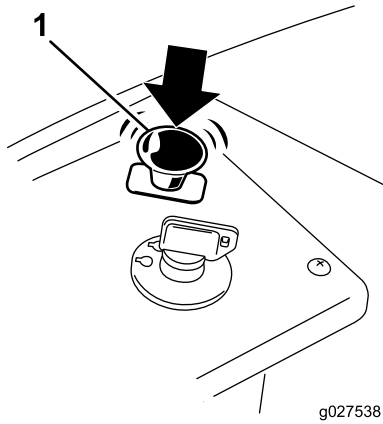

Figure 13
1. Disengage the blades by pushing the blade-control switch to Off (Figure 13).